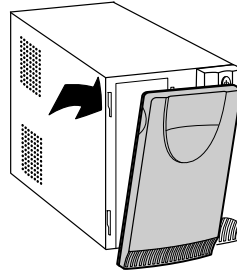

Figure 20. Removing the UPS Front Cover
1. Pull the top left corner forward and remove the UPS front cover (see Figure 20).